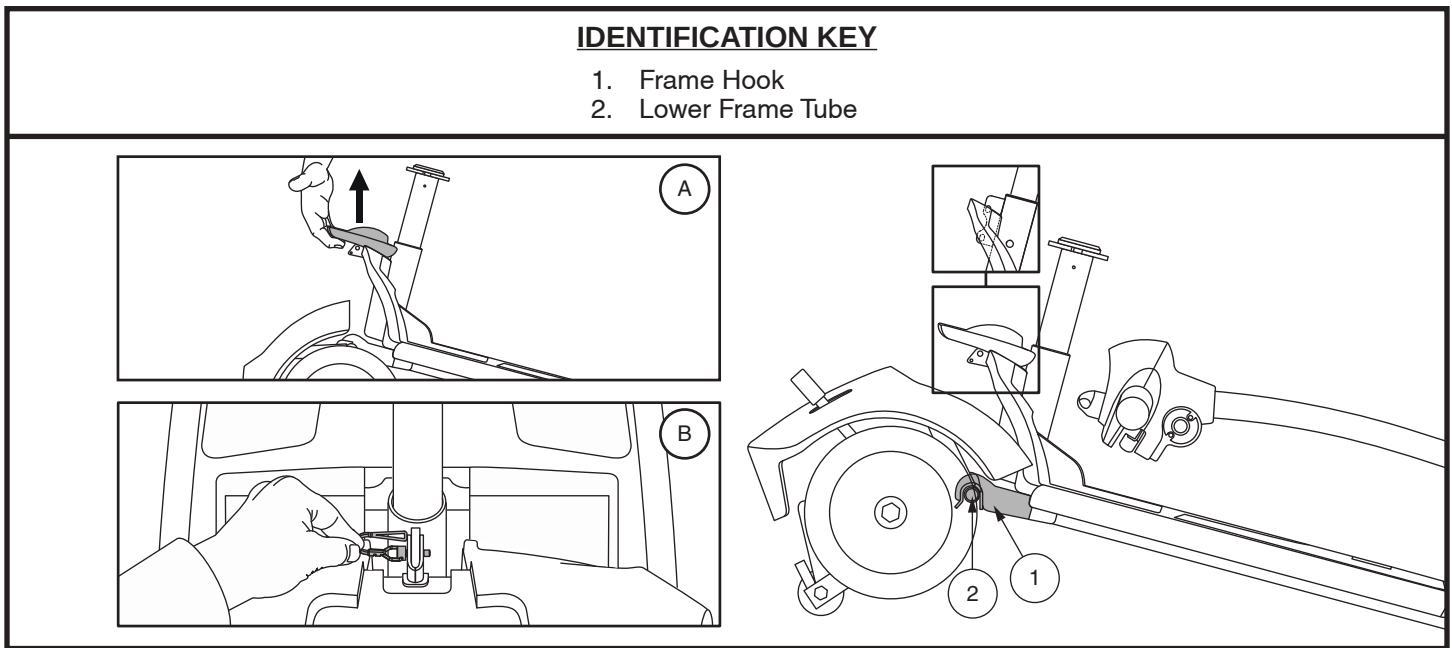

Figure 37. Frame Release Lever (Style A) and Frame Release Lock-up Pin (Style B)
4. Slowly separate the two sections of the Travel Scooter. **See figure 37.**
NOTE: Before attempting assembly, tilt the rear half of the Travel Scooter slightly back on the anti-tip wheels as shown in figure 37.
1. Use the frame release lever (or the seat post for models 29, 36, 336, 83, and 84 only) to lift the front section as you align the frame hooks of the front section with the lower frame tube of the rear section. **See figure 37.**